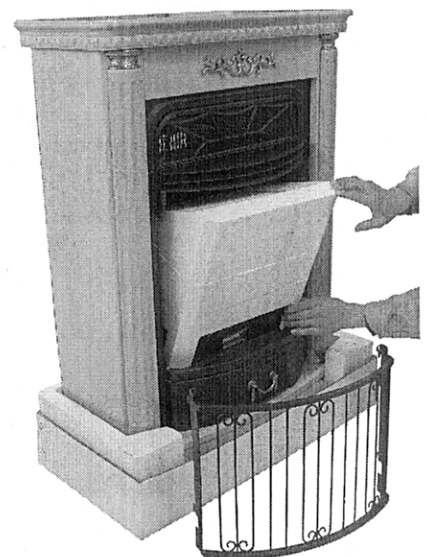

Figure 3
- Take the white foamed plastic bag out. Be sure to take upper part of the bag out first (see Figure 3).